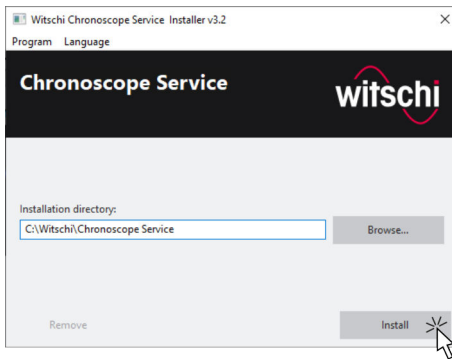

Fig. 4: Installing software
5. Start the installation (Fig. 4).